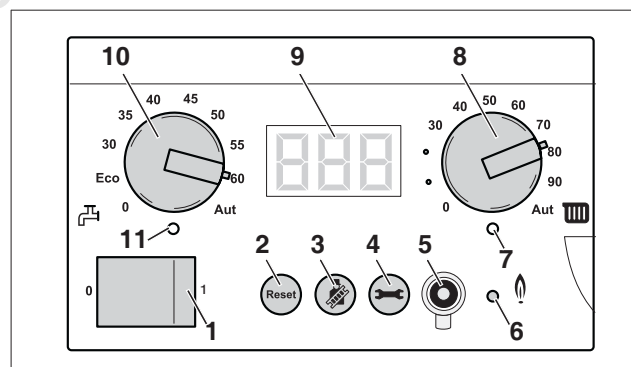

fig. 97 BC10 basic controller
- Press and hold the "Chimney sweep" button (fig. 97, **item 3**) (approx. two seconds), until the dot in the right-hand bottom corner of the display (fig. 97, **item 9**) appears. See also table 9, "Flue gas test", page 52.
- After the "Burner" LED (fig. 97, **item 6**) has lit up wait for one minute until the boiler is burning at full load.
- Press the "Chimney sweep" button (fig. 97, **item 3**) to clear the reading. See also table 9, "Flue gas test", page 52.